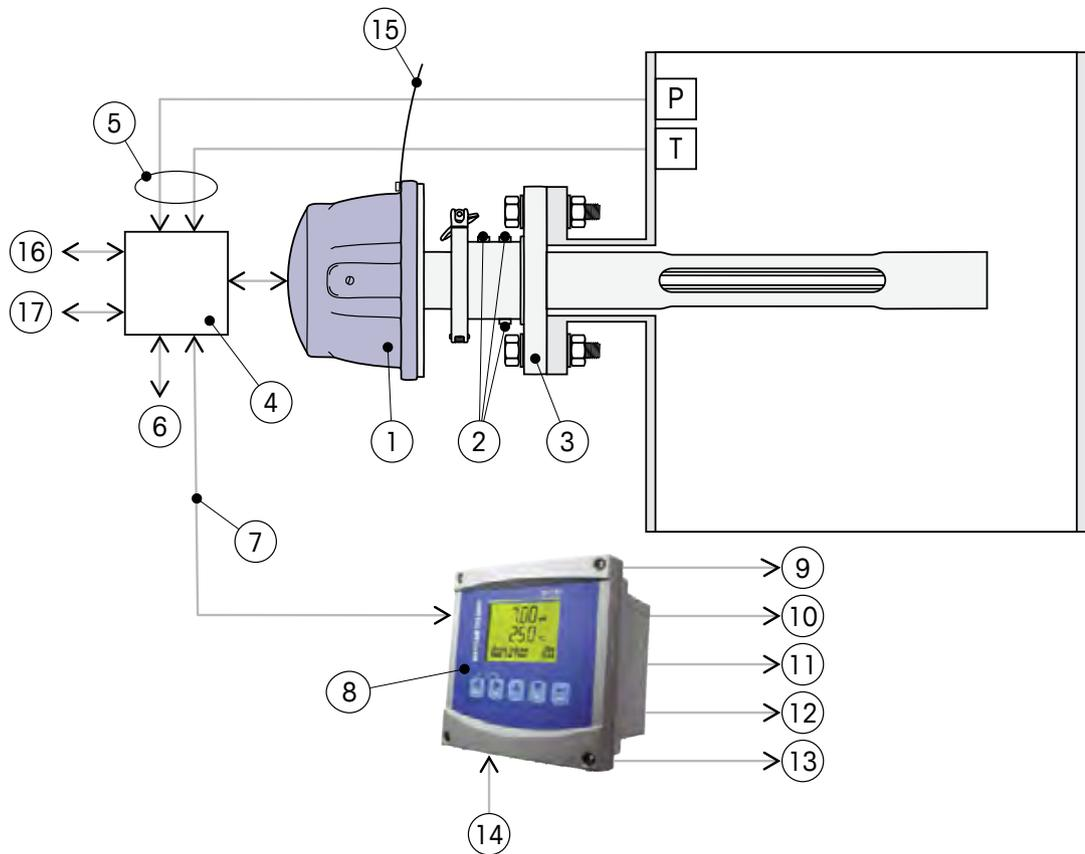

Figure 1 Setup of GPro 500, standard purged probe (SP) shown
In standard setup, the GPro 500 is connected to the M400 that provides a convenient user interface for setting up the mandatory application-specific analyzer parameters during commissioning, for verification and calibration of the system, and for using the i/o capabilities built into the M400, i.e. 4x 4...20 mA active analog outputs and 6 relays. Alternatively, if GPro 500 is supplied as an additional output version. This version provides 2 x 4...20 mA passive analog outputs directly from the sensor head and offers a full Ex-d solution. In this case a M400 transmitter is not supplied and a M400 should not be connected to the sensor head. To configure the optional direct analog outputs, it is necessary to use the MT-TDL software Suite to configure the GPro 500 during commissioning (using the Ethernet connection to the GPro 500, see item 6 on see Figure 1 (Setup of GPro 500, standard purged probe (SP) shown) on page no 18). For more information on the MT-TDL Software, please refer to chapter see 6 (Service) on page no 62.